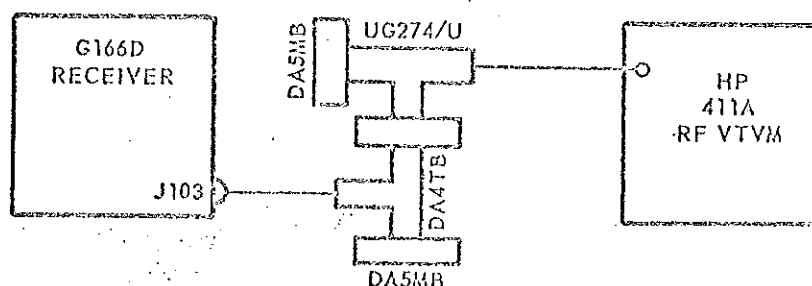

Figure 5-11
- a. Connect test equipment as shown in figure 5-11.